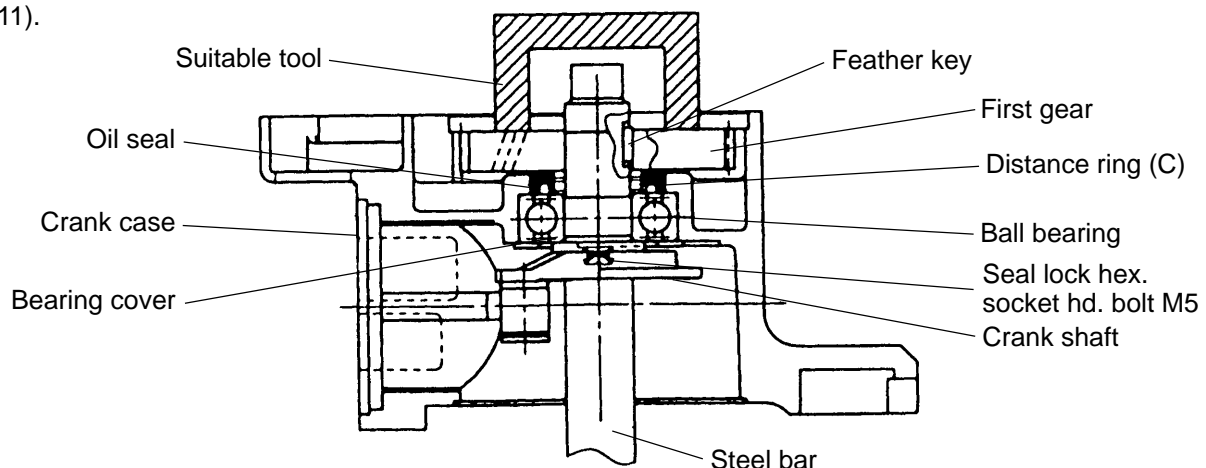

Fig. 11
Press-fit the Ball Bearing [37] in the Crank Case [28] and fix the Bearing Cover [36] with the two Seal Lock Hex. Socket Hd. Bolts M5 x 14 [35]. Press-fit the Crank Shaft [33]. Then press-fit Distance Ring (C) [39] and mount the Oil Seal [38]. Put the Feather Key 3 x 3 x 10 [34] into the groove of the Crank Shaft [33] and press-fit the First Gear [44] with a suitable tool while holding the flat portion of the Crank Shaft [33] with a steel bar. Before press-fitting, make sure that the Feather Key 3 x 3 x 10 [34] fits in the key groove of the First Gear [44] (Fig. 11).